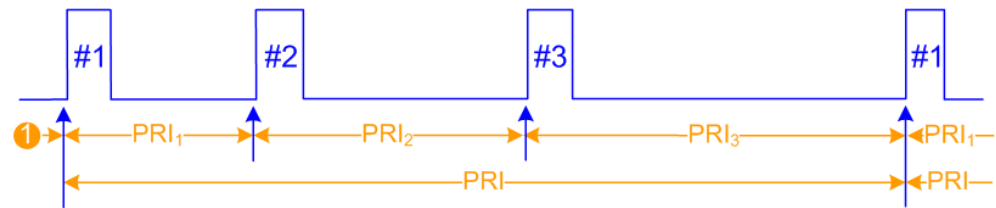

Figure 9-2: Example of an IPM effect: Staggered PRI
Staggered PRI is a transmission method based on pulse trains with constant pulse width (PW) and varying PRI. The principle of staggered PRI is illustrated on Figure 9-2
As illustrated on Figure 9-2, within a pulse train group each successive pulse uses a different PRI; the pulse train group is slewing.